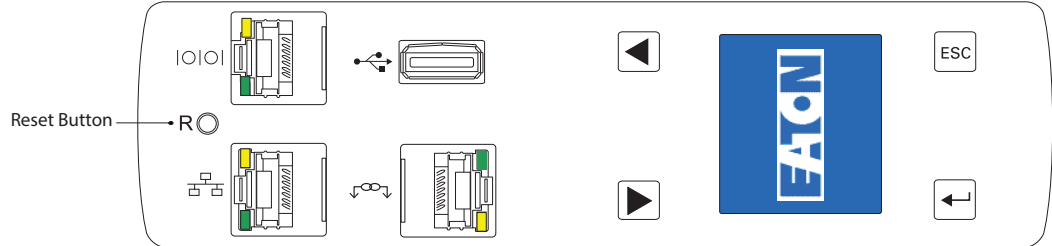

Figure 48. Reset Button (0U Models)
- 3. After 10 seconds, use the reset button to restart the eNMC module and apply the new settings (see Figure 48).